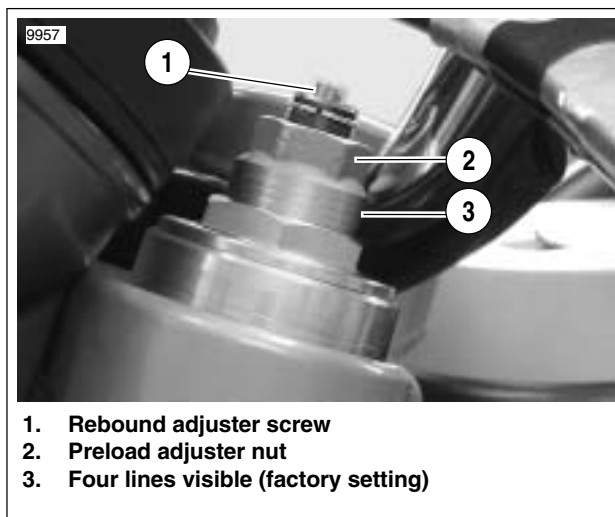

Figure 1-30. Front Fork Preload And Rebound Adjuster
1. Check number of lines (3) to be showing for your load condition. Refer to Table 1-10. or Table 1-11.
2. See Figure 1-30. Adjust preload by turning the adjuster nut (2) with a wrench.
1. See Figure 1-30. Using a screwdriver, turn the slotted dial (1) clockwise until it stops. This is the maximum rebound damping setting.